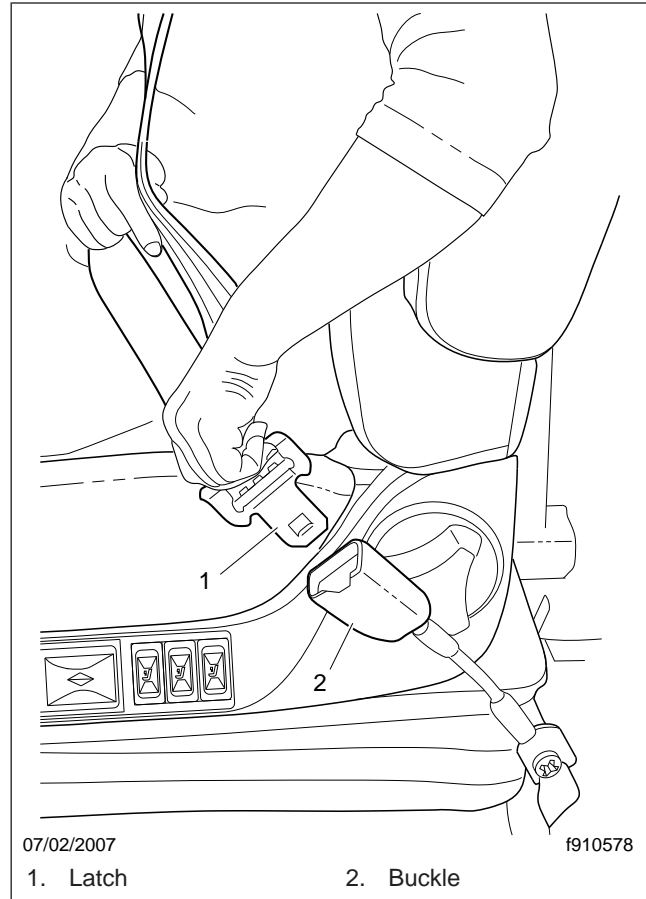

Fig. 7.9, Three-Point Seat Belt Operation
1. Slowly pull the link end of the seat belt out of the retractor and pull it across your lap (from outboard to inboard) far enough to engage the buckle. If the retractor locks too soon, allow the belt to retract slightly, then slowly pull it out again. See Fig. 7.9.